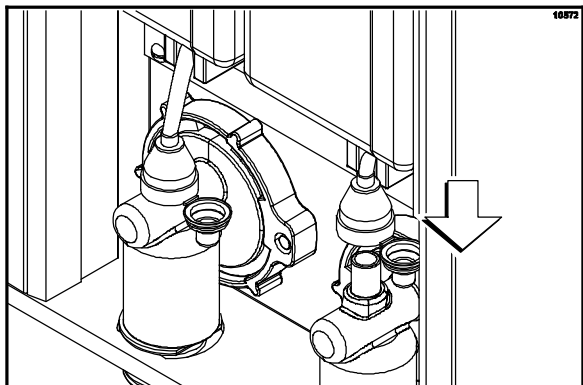

Figure 22
8. Place the concentrate tube over the top of the pump head. Position the tube between the mix out sensors. Open the fitment cap and connect the fitment to the pump head. (See Figure 22.)